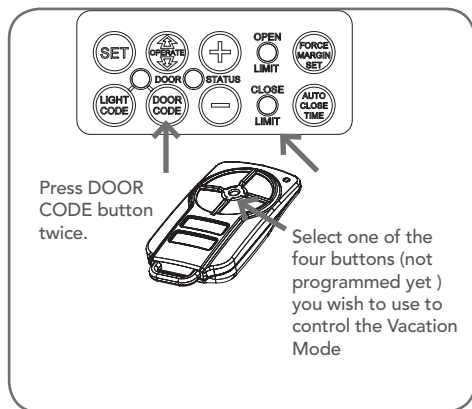
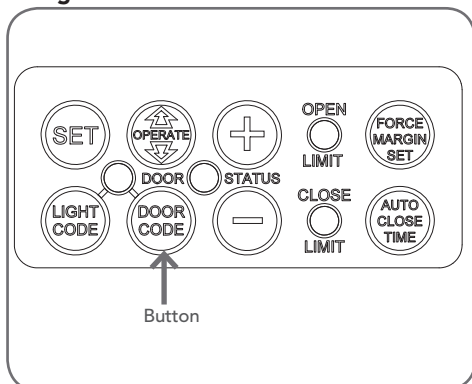

Fig. 8.3
Fig. 8.4
- Briefly press the DOOR CODE button once, then press it again and hold (will beep two times on second press (**Fig. 8.3**).
- Press one of the four (4) buttons on the transmitter for two (2) seconds, pause for two (2) seconds, then press the same button again for two (2) seconds.
- Press and hold the transmitter button for six (6) seconds to set Vacation Mode. The door code LED will stay lit while Vacation Mode is active.
- Press and hold the DOOR CODE BUTTON (**Fig. 8.4**).